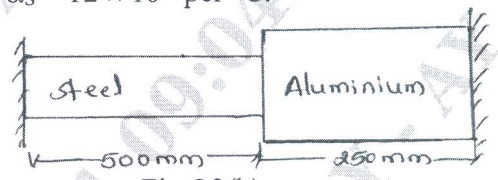

Fig.Q2(b)
b. A composite bar made up of aluminium and steel is held between two supports as shown in Fig.Q2(b). The bars are stress free at temperature 42°C . What will be the stresses in the two bars with the temperature drops to 24°C if (i) The supports are unyielding (ii) The supports come nearer to each other by 0.1 mm. The cross-sectional area of steel bar is 160 mm^2 and that of aluminium bar is 240 mm^2 . $E_A = 0.7 \times 10^5 \text{ N/mm}^2$, $E_S = 2 \times 10^5 \text{ N/mm}^2$, $\alpha_A = 24 \times 10^{-6} \text{ per } ^\circ\text{C}$ and $\alpha_S = 12 \times 10^{-6} \text{ per } ^\circ\text{C}$.